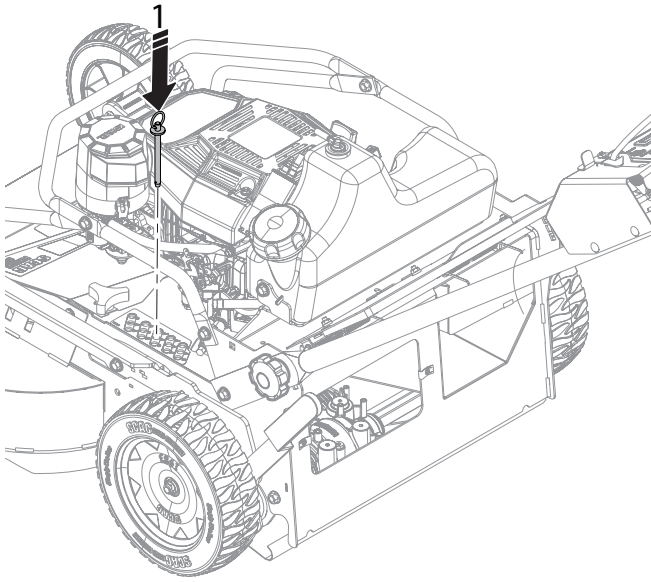

Figure 1-9. Install Height of Cut Pin
7. Install the cutting height pin into the 3-1/4" height of cut position. See Figure 1-9.